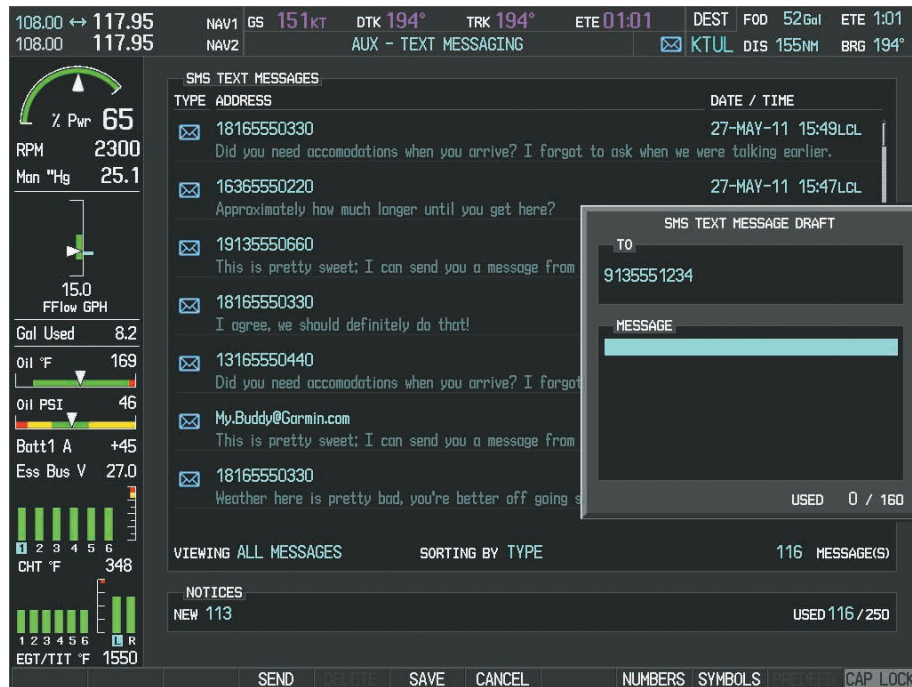

Figure 8-97 Composing a New Text Message
- 2) The TEXT MESSAGE DRAFT Window is now displayed with the cursor in the 'TO' field. Enter 00 + country code + area code + phone number when sending to a text capable telephone. An email address may also be entered. Entry can be accomplished through the alphanumeric keys on the MFD Controller, or combination of the **FMS** Knob on the controller and softkeys on the MFD. The **FMS** Knob is used to enter letters and numbers, or numbers can be entered from the MFD by selecting the **NUMBERS** Softkey. Select the **CAP LOCK** Softkey to create upper and lower case alpha characters. Special characters can be accessed by selecting the **SYMBOLS** Softkey. See Figure 8-97.